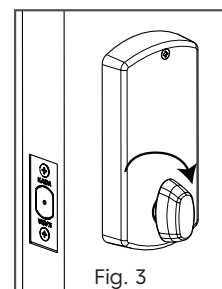

Fig. 3
7. Rotate inside thumbturn to retract the dead bolt. See Fig. 3 & Fig. 4.